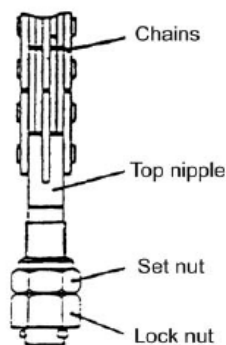

Fig. 6-12
- (1) Place a salver on the forks and make the forklift stop on the horizontal ground.
- (2) Make the forks and salver descend to the ground.
- (3) Take down tie-in on top of the chains. And take out chains from sheave. (See Fig. 6-12)
- (4) Make the inner mast rise.
- (5) The forklift can be removed when the fork bracket disengaged from the outer mast.
- (6) Replacing main rollers